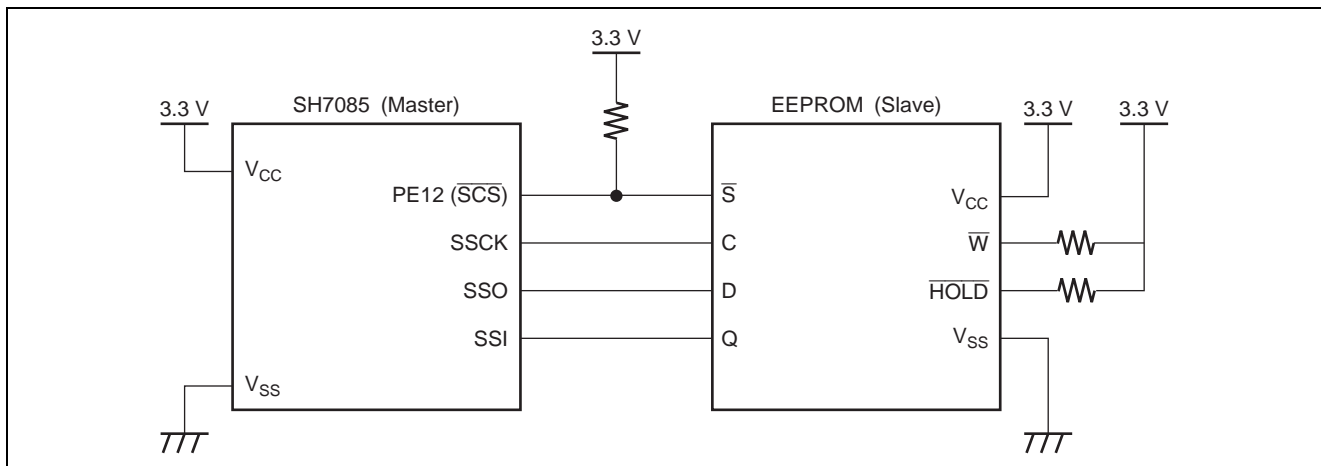

Figure 1 Example of Connection between the SH7085 and an EEPROM
- (1) The SSU (Synchronous Serial Communication Unit) module of the SH7085 is used to write 10-byte data to a 4-wire serial-transmission (SPI bus) EEPROM (HN58X25128I, 128 Kbits, 16 Kwords × 8 bits).
- (2) The connection is a single-master configuration with the SH7085 used as the master device.
- (3) PE12 (general input/output port) is used as the chip select pin*.
- (4) Data is written into the EEPROM in the address range of H'0000 to H'0009.
- (5) The data transfer clock on the SPI bus is set to 2.5 MHz.
- (6) Figure 1 shows an example of connection between the SH7085 and the EEPROM. Table 1 shows the SH7085 SSU settings.
- (7) Table 2 is a list of EEPROM instruction codes used in this sample task.